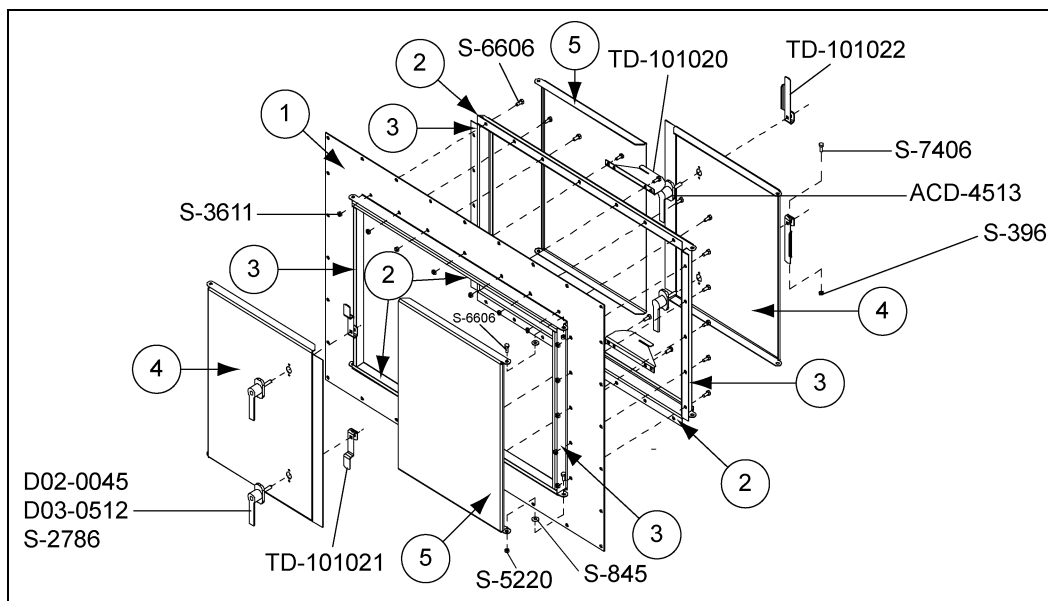

Figure 9X
5. With the nut and bolt supplied, attach the appropriate latches to the handles and lock them. (*Refer to Figure 9X.*) Adjust front latches (TD-101021) to catch the inside lip of the front Z-frames. Adjust rear latches (TD-101022) to fit the slot in the top and bottom catches attached to the rear Z-frames.